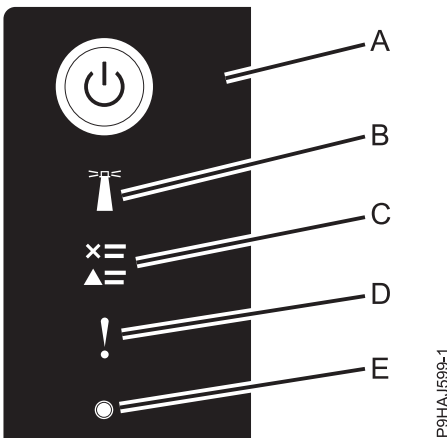

Figure 34. Control panel LEDs
3. Press the power button (**A**) on the control panel, as shown in Figure 34.